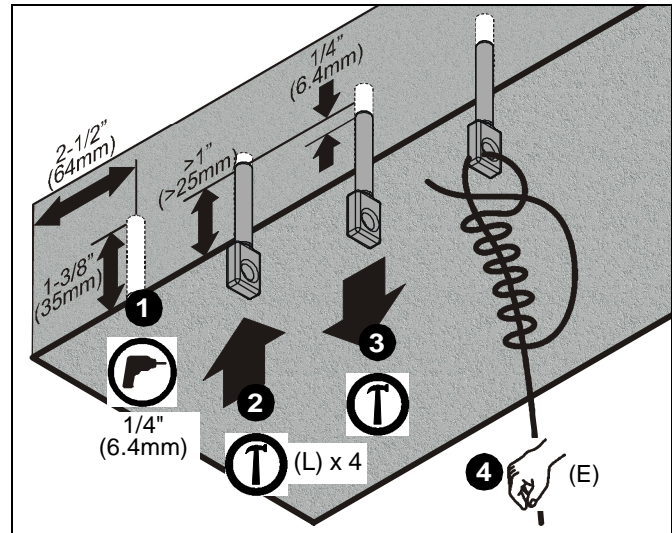

Figure 8
1. Drill 1/4" (6.4mm) diameter x 1-3/8" (35mm) deep hole at each marked wire anchor support location. (See Figure 8) Ensure hole is at least 2-1/2" (64mm) from nearest concrete edge. Remove debris from hole.
2. Tap anchor (L) into each hole to a depth of at least 1" (25mm). (See Figure 8)
3. Using claw portion of hammer, set each anchor (L) by pulling it out of hole approximately 1/4" (6.4mm). (See Figure 8)
4. Insert support wire (E) through hole in anchor. Twist wire tightly around itself at least four complete turns, and then thread loose end between anchor and first turn (See Figure 8). Repeat for three remaining support locations.